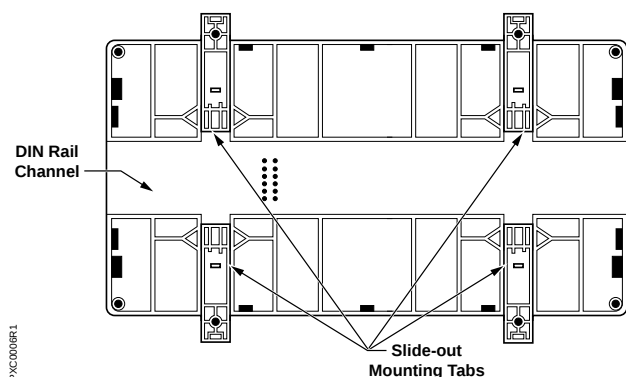

Figure 1. Back View of the PXC Compact.
- Connect the controller to a DIN rail by using the four slide-out mounting tabs (see Figure 1).
2. Gently slide out the mounting tabs (see Figure 1).
2. Align the channel on the back of the PXC Compact with the DIN rail (see Figure 1).